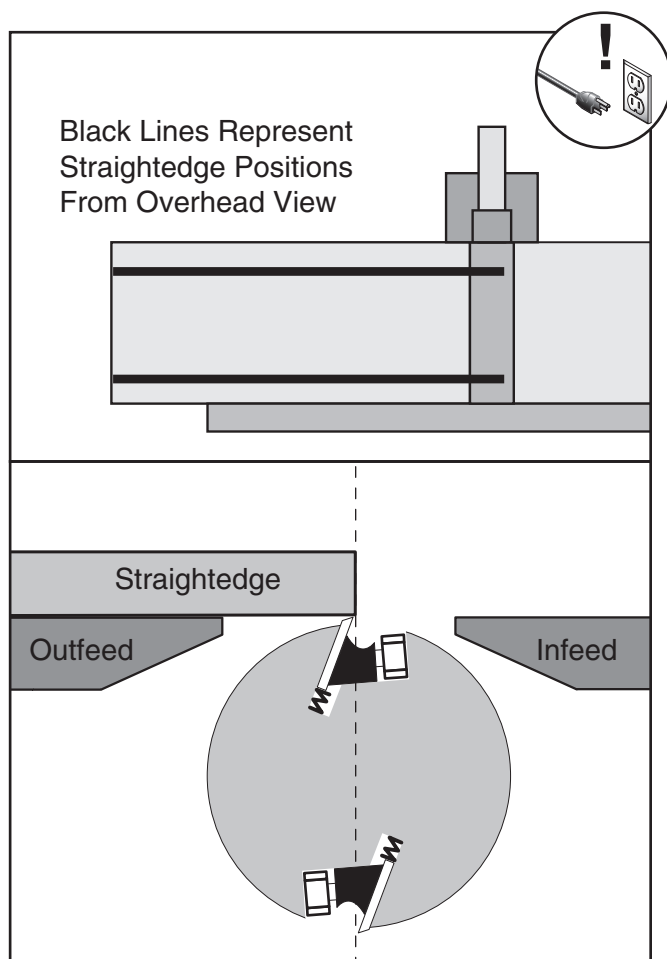

Figure 37. Checking knife height at top dead center with a straightedge.
2. Loosen (2) button head cap screws securing cutterhead guard to jointer base, then remove cutterhead guard.
3. Using a straightedge on outfeed table, check height of each knife at positions shown in **Figure 37**.
— Knives are set correctly when they just touch bottom of straightedge at top dead center (TDC) (see **Figure 37**) in each straightedge position.